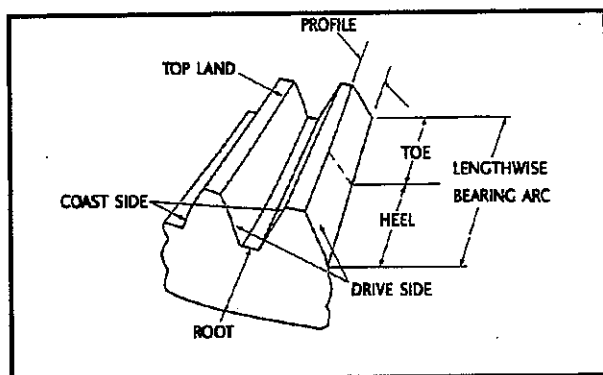

Figure 29—Gear Tooth Elements
1. Paint $\frac{1}{4}$ of ring gear with marking compound on the drive side and the coast side. (See Figure 29—Gear Tooth Elements.)